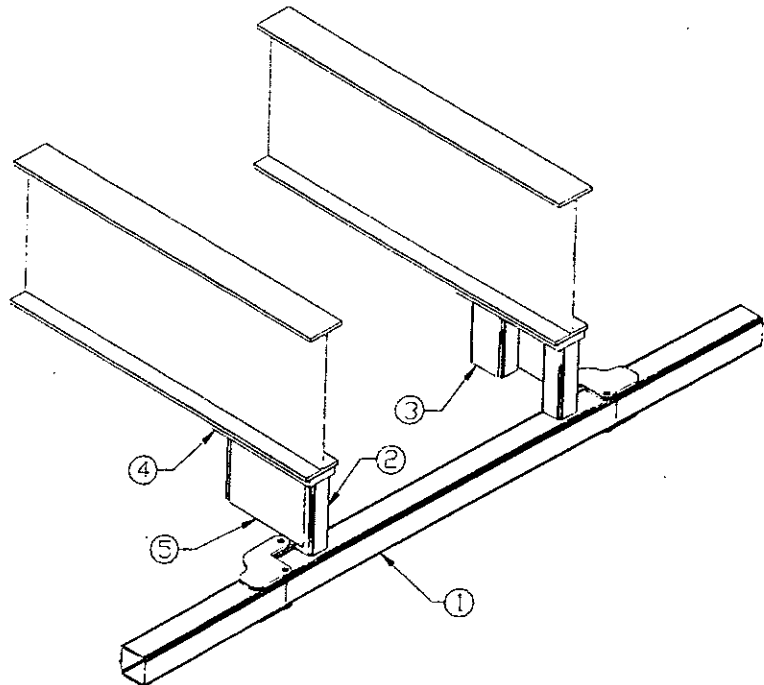

Figure 4 - Assembled bumper kit
6. Position the connector plate as shown in figure 4. Trim it to the height of the front stabilizer tube if necessary. Tack-weld it into position. Once the entire kit is tack-welded in position, fully weld the under-ride protection kit.